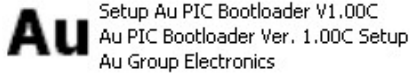

Figure C-1 Setup Au PIC Bootloader V1.00A icon
1. Double click icon of the “Setup Au PIC Bootloader V1.00B” to start installing Au PIC Bootloader (Figure C-1).